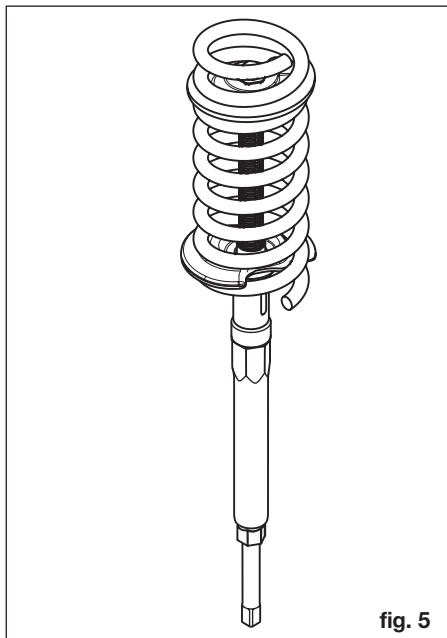

fig. 5
- Operate drive with the tubular box-end wrench **6** and the reversible ratchet **8** (**figure 5**).